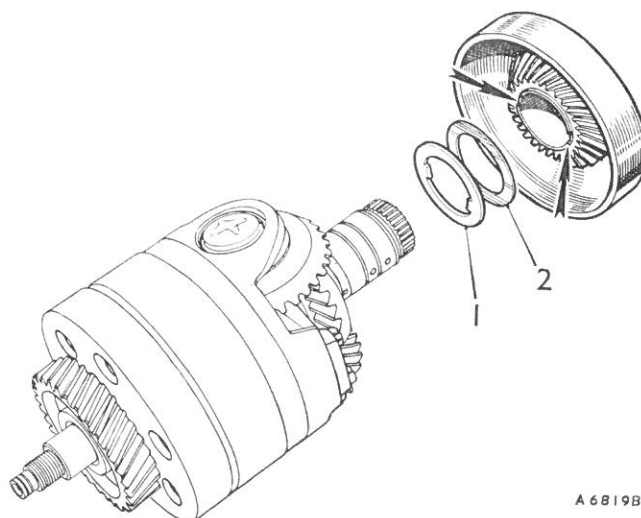

Fig. Fa.36
- (4) Remove the third gear reaction member together with its thrust washer and shim (if fitted) (Fig. Fa.36).